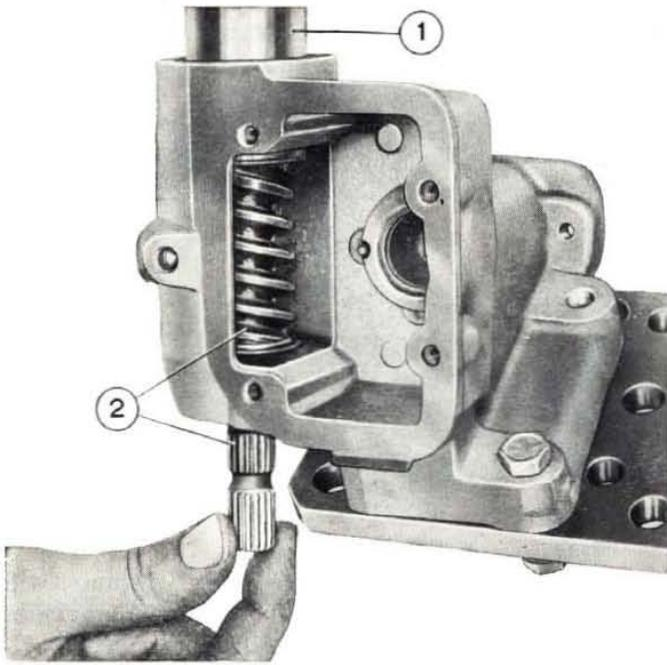

Fig. 277 - Adjusting worm bearings.
- the installation and setting of bearing adjuster nut are made using wrench **A. 57003** (fig. 277).